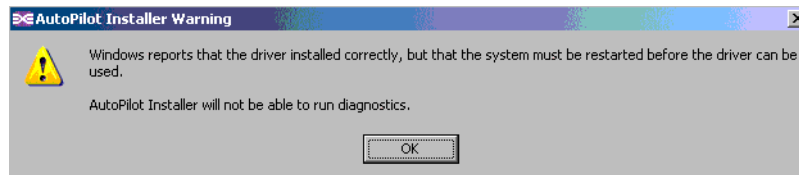

Figure 24-35 Emulex - AutoPilot Installer Warning - Restart
4. You are advised that another restart is necessary (Figure 24-35). Click **OK** to confirm.